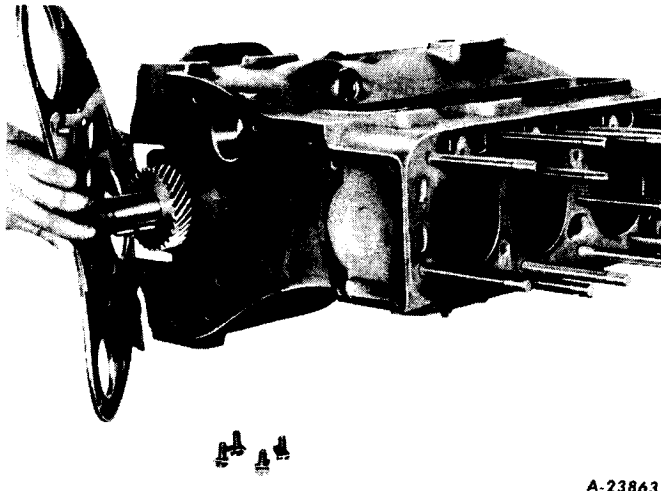

Fig. 5 - Removing the Front Plate.
11. NOT 135, 135B, 146 AND 153 SERIES: Remove the cap screws securing the front plate to the crankcase. Remove the front plate (Fig. 5).